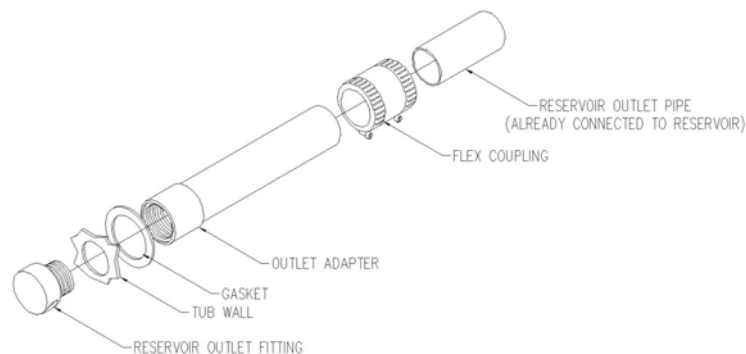

Figure 4
3. Replace the plug with the reservoir outlet fitting, Gasket, and outlet adapter. (These are packed with the reservoir) See **Figure 4** for assembly order. Ensure that the opening of the outlet fitting is pointed directly down after final tightening.
2. Connect the reservoir outlet pipe to the outlet adapter with the provided flex coupling and tighten. Reference **Figure 4**.